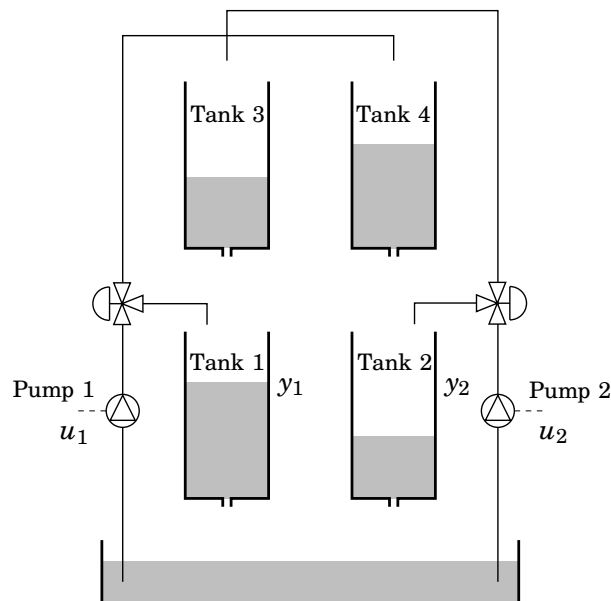

Figure 7.1 The quadruple-tank process.
7.2 Figure 7.1 shows the quadruple-tank process that will be used in Lab 2. The goal is to control the measured levels in the lower tanks (y_1, y_2) using the pumps (u_1, u_2). For each tank $i = 1 \dots 4$, mass balance and Torricelli's law give that